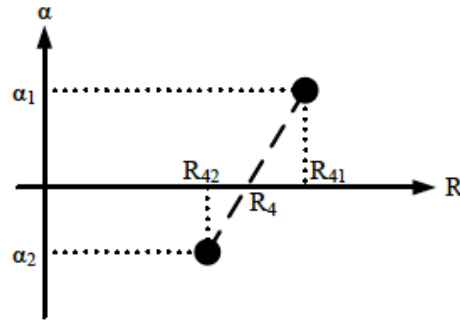

Figure 3. Change of Resistance
- The bridge is balanced with the help of variable resistance ( $R_4$ ). When the equilibrium condition is very close, the current passing through the galvanometer changes direction by changing the value of the  $R_4$  resistance by one step ( $1 \Omega$  or  $0.1 \Omega$ ). In Figure 3, this indicates that the resistance change required for the equilibrium condition is between the two stages. The bridge cannot be stabilized due to the small value resistances in the laboratory. In this case, the resistance value that will balance the bridge is calculated with (9):